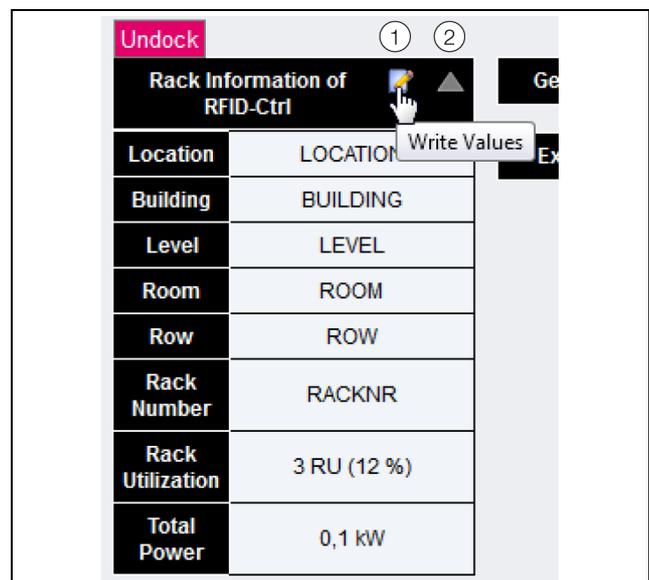

Fig. 15: Changing the settings in the graphical display
- Move the mouse pointer over the "Edit" symbol, and the mouse pointer will change into a "Hand" symbol (fig. 15, item 1).
- Click on the "Triangle" symbol to the right of the "Edit" symbol to open and close the respective area (fig. 15, item 2).